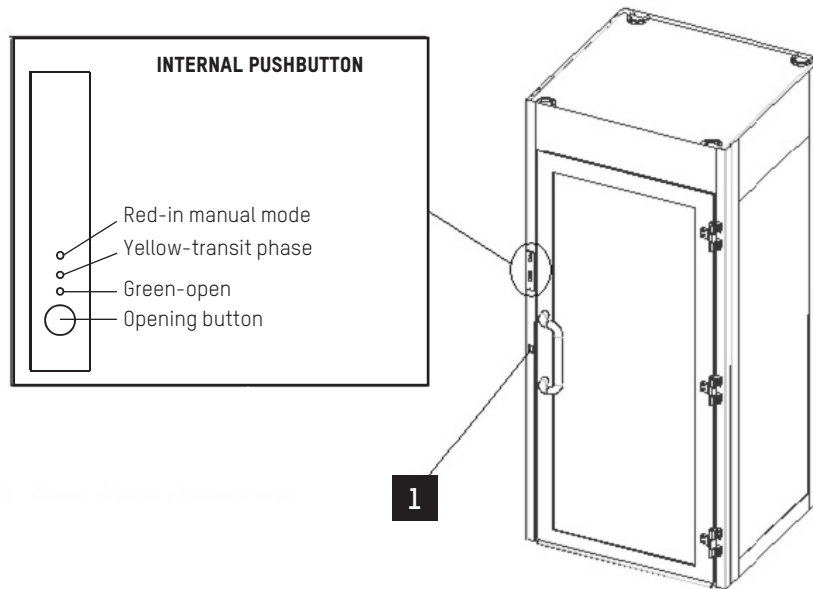

Fig. 2 - View of internal side
1. Press the call button (*part. 1, Fig. 2 - View of internal side*) situated on the side of the passage compartment and wait for the door to open